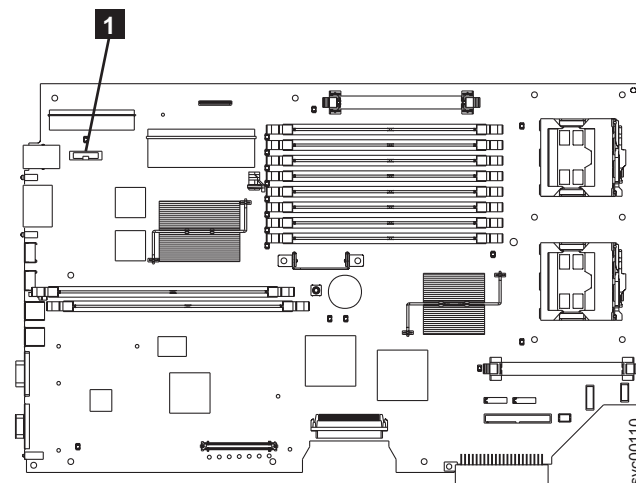

Figure 173. Battery location on the SAN Volume Controller 2145-8F4 or SAN Volume Controller 2145-8F2
5. Locate the battery **1** on the system board. Figure 173 shows the location of the battery.